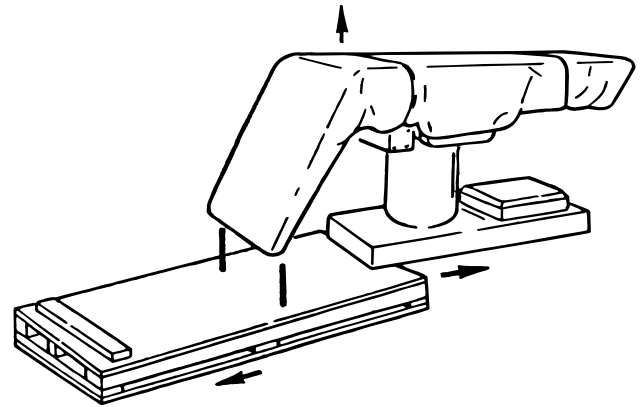

Figure 6.
9. Slide the head end of the table off from the crate base (figure 6) and position it so that just the edge of the table remains on the crate base.